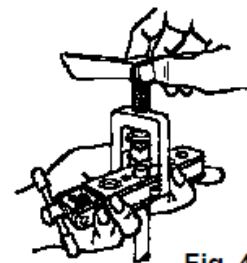

Fig. 4
7. Move the yoke down over the top of the die holder and twist it clockwise to lock it into position. Note that the yoke can be positioned directly over the top of the tube. (See Fig. 4.)